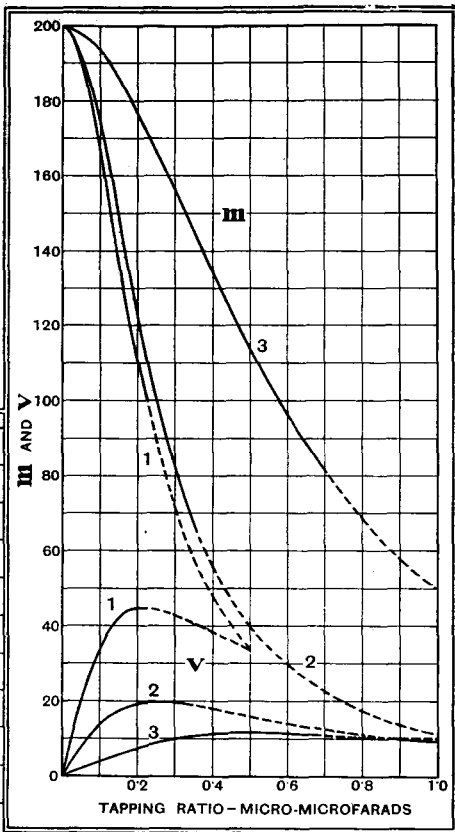

Fig. 3.—Effects of variations in inductive coupling; conditions otherwise as in Fig. 2.
(3) For a given receptivity, a large aerial gives most selectivity. Thus, in Fig. 3, when aerial (2) gives a v of 20, the m is 100. But with aerial (1) the m is 192 for the same v . Added to that, the large aerial picks up more signal, so if desired the coupling can be made still looser without sacrificing any signal strength. This explodes the theory that a small aerial is more selective.
(5) But the capacity effect of the aerial on the tuned circuit is less with the inductive coupling. If, then, a capacity limit is fixed, such as the 25 m.mfds. here chosen, the inductive system offers a wider range of adjustment, and therefore may well give better results. In Fig. 3, aerial (1) permits a receptivity of 45 without exceeding the 25 m.mfd. limit. The capacity coupling (Fig. 2) allows only 20. The necessity for limiting the capacity effect is not only because too high a minimum capacity makes it impossible to tune low enough in wavelength, but also because the effective capacity due to the aerial is not absolutely constant at all wavelengths, and even if "trimmed" at one point on the scale it throws the ganging out elsewhere.